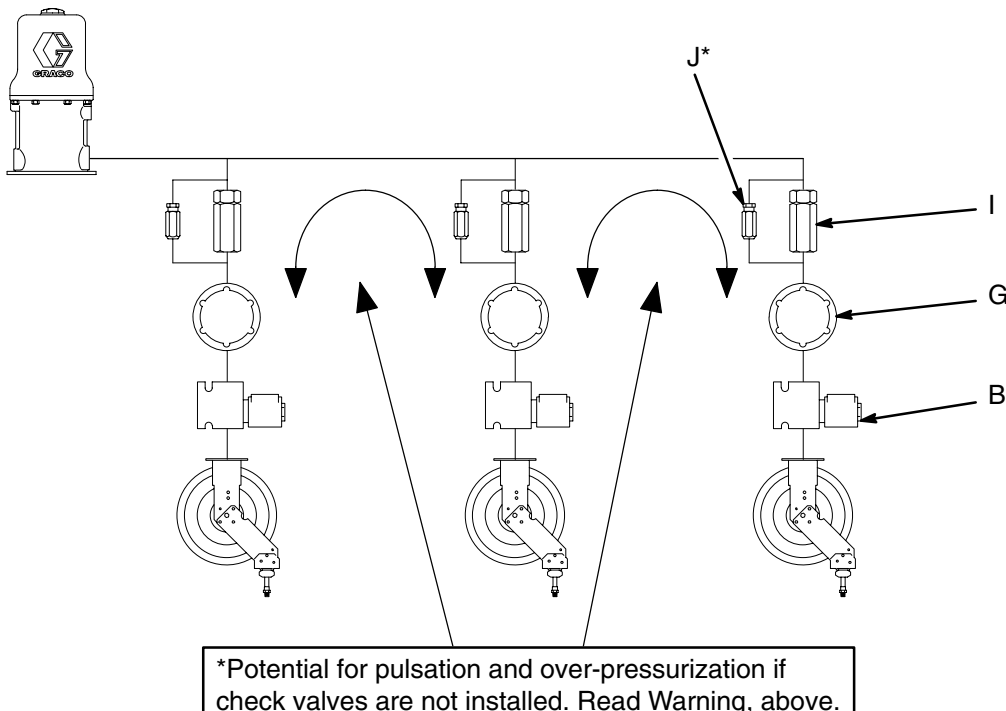

Fig. 24
When simultaneously dispensing fluid, check valves (I) and pressure relief valves (J) need to be installed at each pulse meter (G) to prevent false readings on one meter while other meter, solenoid (B), and valve combinations are actively dispensing. See Fig. 24.